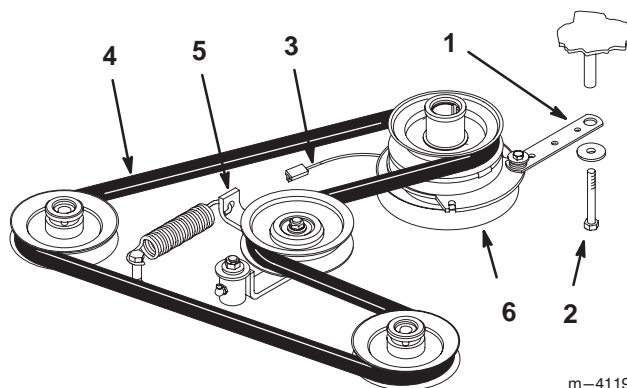

Figure 59
2. Remove bolt from clutch strap and unplug clutch electrical wire (Fig. 59).
3. Pull spring loaded idler to side. Remove traction belt from the engine and hydro pump pulleys (Fig. 59).
4. Install new belt around engine and hydro pump pulleys (Fig. 59).
5. Pull spring loaded idler to side and align belt. Release pressure on spring loaded idler (Fig. 59).